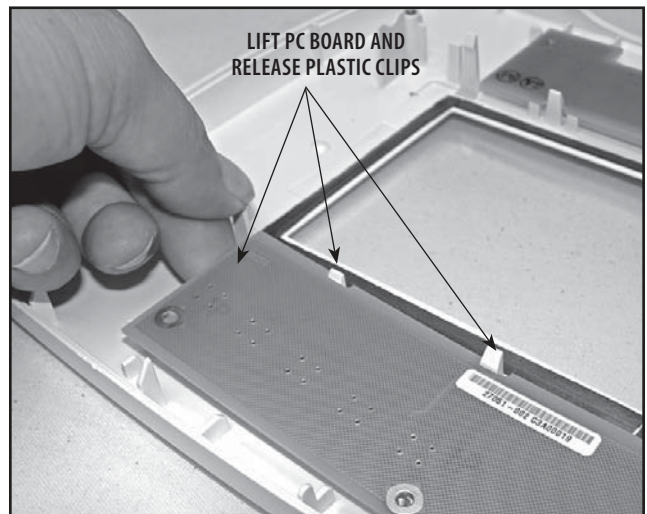

FIGURE 6.29
5. Starting at the top of the Keymat PC Board, lift board with one hand, push in and release the plastic clips holding the Keymat PC Board in position. See Figure 6.29.